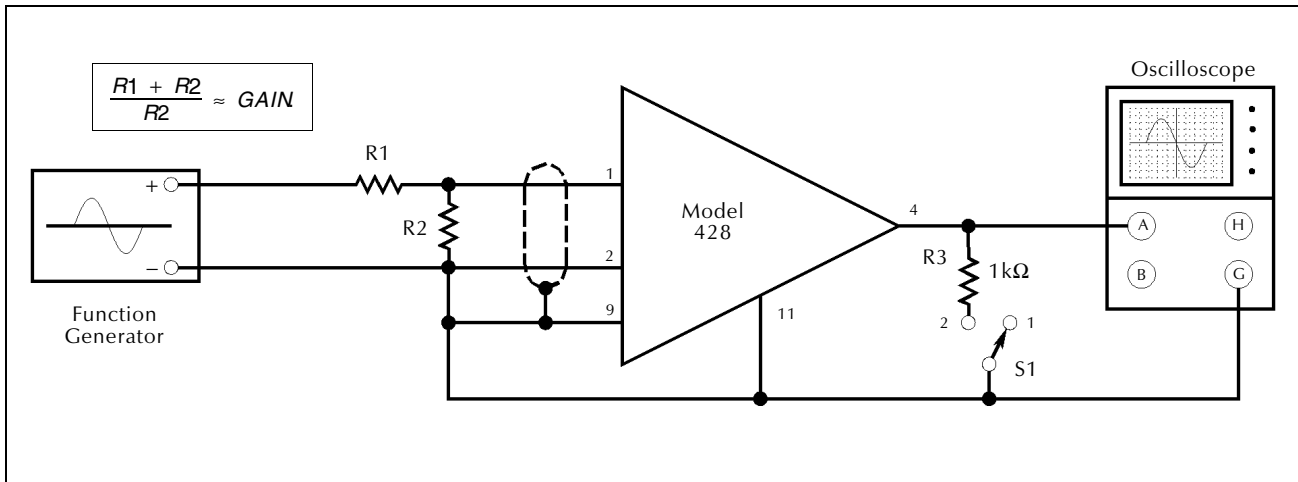

Figure 5-7
1. Connect the Model 428 as is shown in Figure 5-7. For R1, R2, and R3 use either metal-film or carbon-film or carbon-composition resistors. R2 should not be less than 100 Ω. Install a 1-kΩ 1/4-watt resistor for R3.